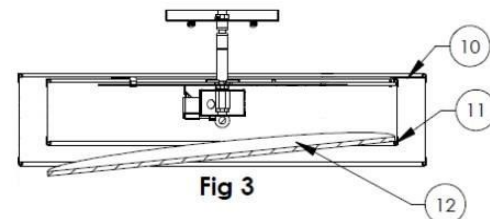

Fig 3
- Install diffuser (12), by aligning and maneuvering the diffuser (as shown in Fig 3) and let the edges of the diffuser (12) rest on top of the wireframe (11) of the inner shade (7).